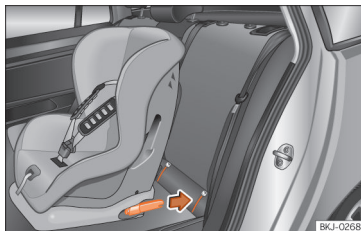

Fig. 25 Rear seats: fitting a child seat with the ISOFIX system.
- Press the child seat onto the “ISOFIX/iSize” retaining rings until the child seat is heard to engage securely » **Fig. 25.** If the child seat is